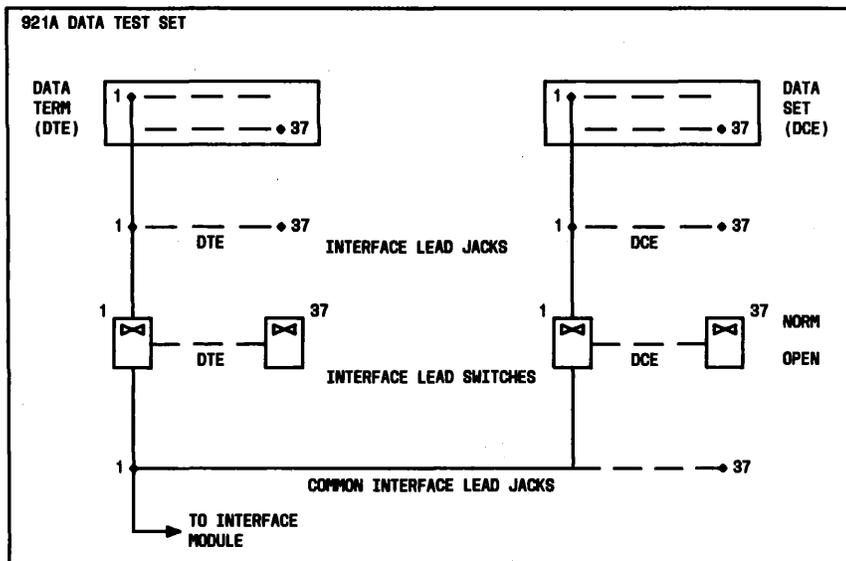

Fig. 10—DTE and DCE Interface Lead Switches and Jacks—Functional Schematic
**3.08** By opening the respective DCE and DTE interface lead switches for individual interface leads, access to the data set or terminal may be obtained, breaking the connection between the data set and the customer interface (Fig. 10).